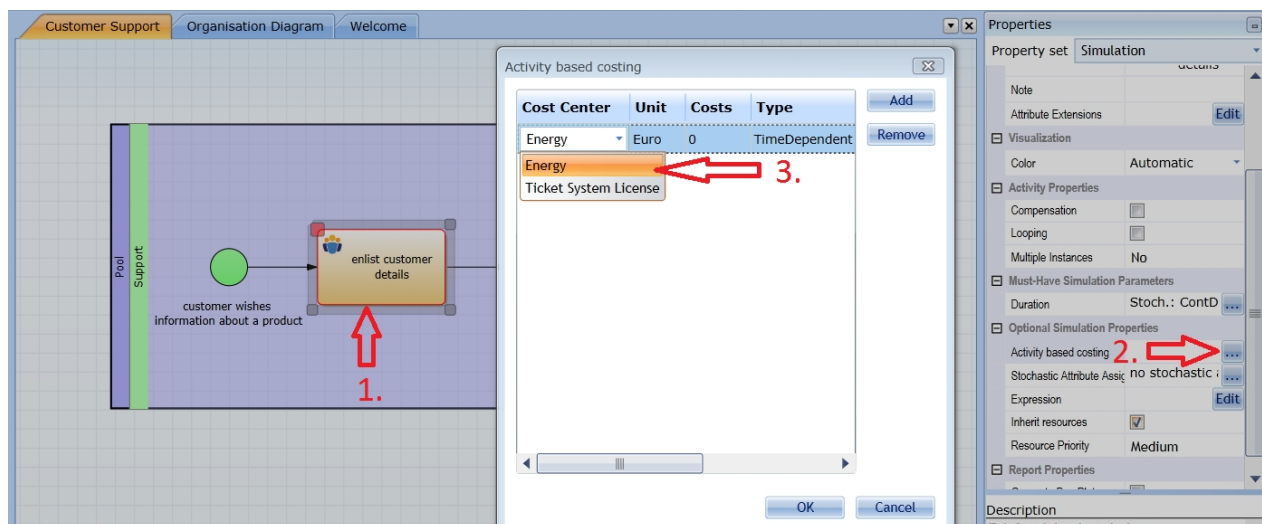

Figure 7: Distributing Cost Centers
- Distribute the cost centers (figure 7)